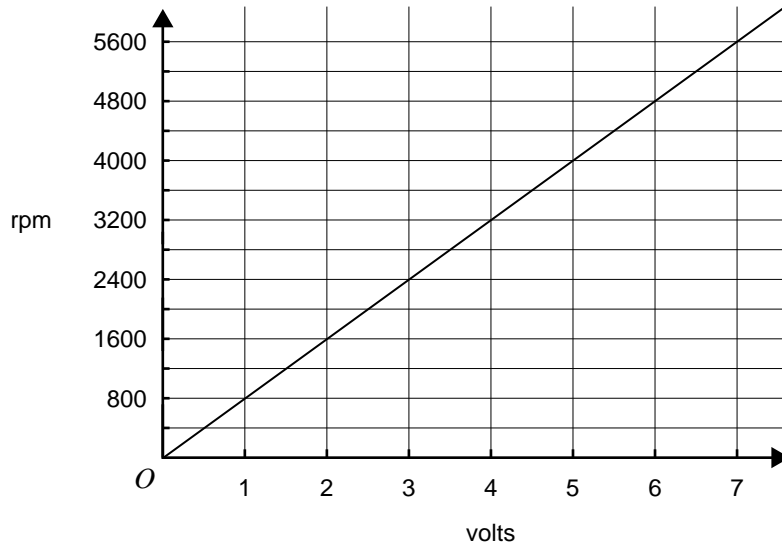

Figure 7
A graph of the speed of rotation and the voltage across the electric motor is given in Figure 7.
- a. Using the graph in Figure 7, give the voltage required for an rpm of 4000.
- b. Referring to Figure 7, state the minimum and maximum voltages for the motor to operate at the range of rpm required.